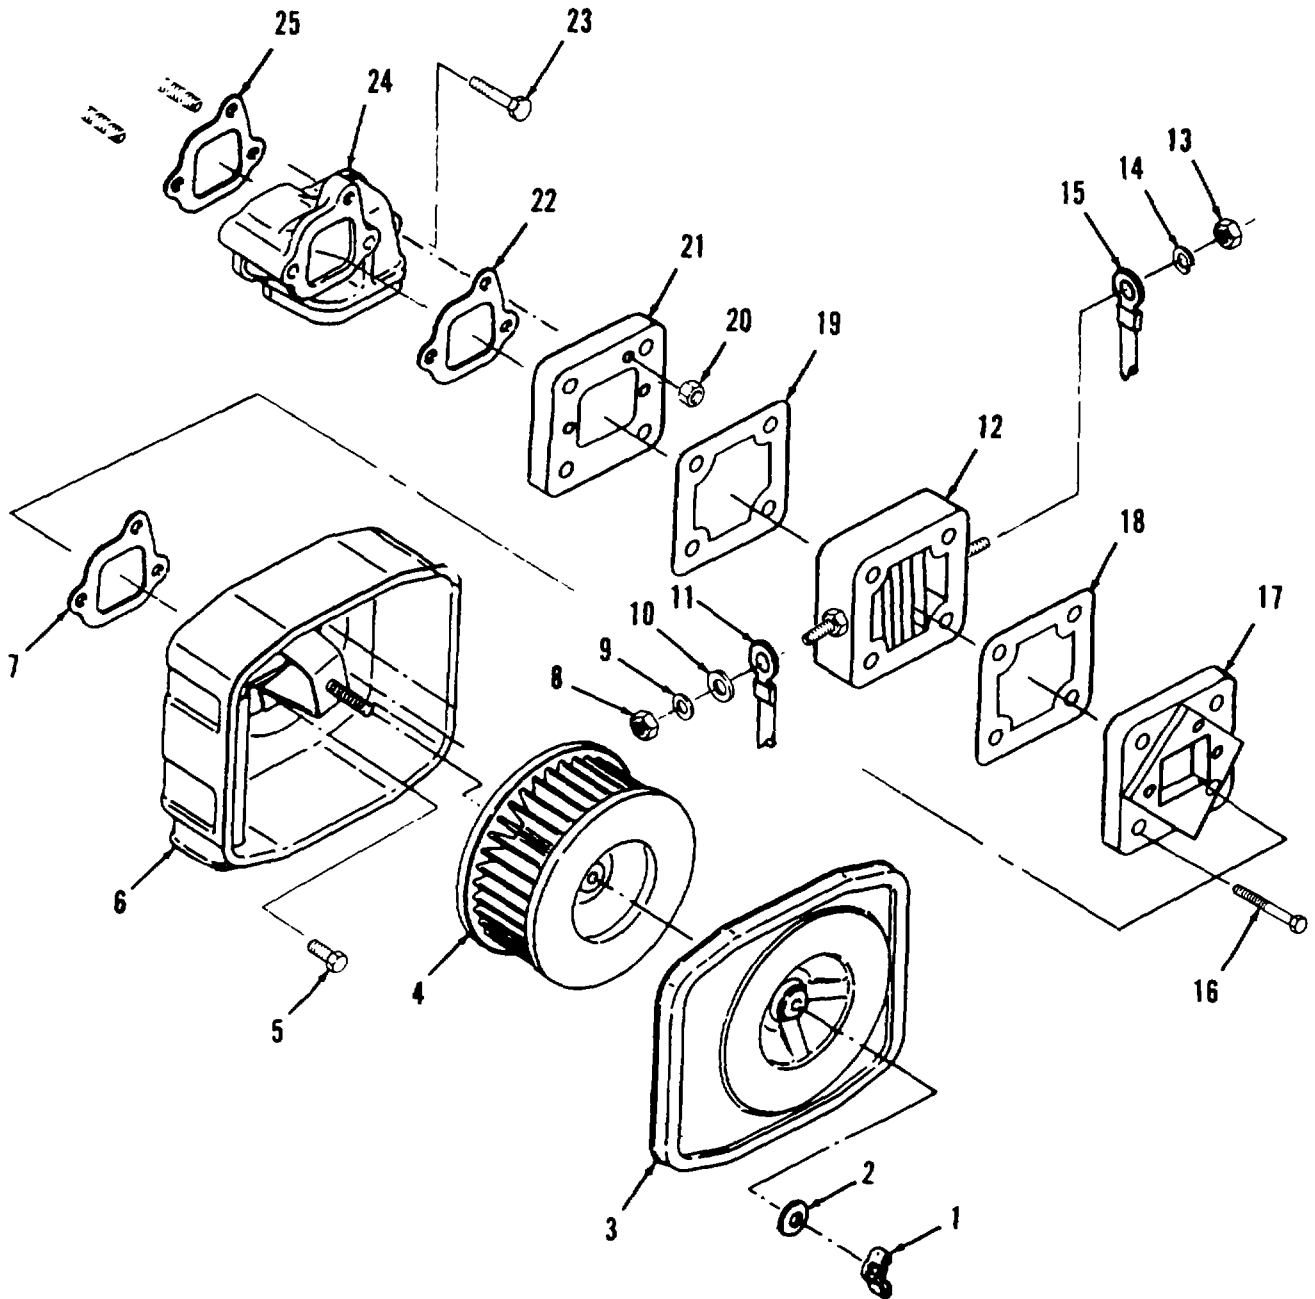

Figure 4-16. Air Cleaner, Filter Element, Air Inlet Heater, and Air Intake Pipe Repair and Replacement.
a. Removal. (Refer to Figure 4-16).
- (1) Remove wing nut (1) and washer (2).
- (2) Remove air cleaner housing cover (3).
- (3) Remove air cleaner element (4).
- (4) Remove three bolts (5) securing the air cleaner housing (6).
- (5) Remove air cleaner housing (6). Discard gasket (7).
- (6) Remove nut (8), washer (9), washer (10), and terminal lug (11) from air inlet heater (12).
- (7) Remove nut (13), lock washer (14), and terminal lug (15) from air inlet heater (12).
- (8) Remove four bolts (16), air inlet heater spacer (17), gasket (18), air inlet heater (12), and spacer (19).
- (9) Remove three nuts (20), spacer (21), gasket (22), screw (23), intake pipe (24), and gasket (25).